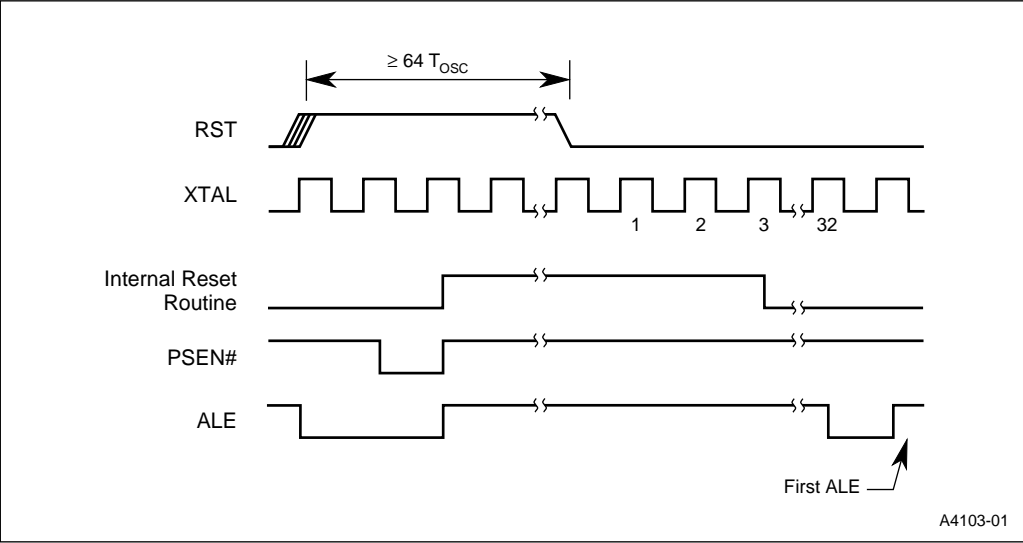

Figure 10-5. Reset Timing Sequence
The CPU checks for the presence of the combined reset signal every $2T_{OSC}$. When a reset is detected, the CPU responds by triggering the internal reset routine. The reset routine loads the SFR's with their reset values (see Table 3-4 on page 3-13). Reset does not affect on-chip data RAM or the register file. (However following a cold start reset, these are indeterminate because V_{CC} has fallen too low or has been off.) Following a synchronizing operation and the configuration fetch, the CPU vectors to address FF:0000. Figure 10-5 shows the reset timing sequence.
1. Assert RST to initiate a device reset. See “Externally Initiated Resets” on page 10-6 and the reset waveforms in Figure 10-5 on page 10-8.